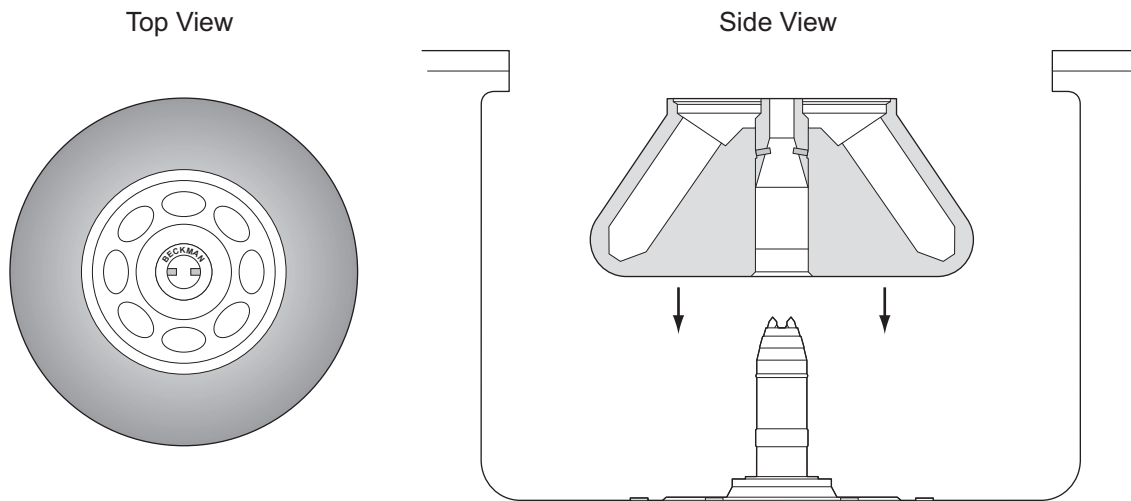

Figure 3. Installing the Rotor
In rotors manufactured since early 1997, the rotor pins are positioned parallel to the BECKMAN name engraved at the center of the rotor body (see Figure 3). Knowing the pin orientation before you install the rotor will help to ensure that you position the rotor properly on the hub, minimizing the chance of hub damage. Follow the steps below.
1. Turn the rotor until the BECKMAN name is either horizontal or perpendicular to the drive hub pins or teeth (see Figure 3). Alternately, rotate the drive spindle to align the hub pins or teeth with the rotor drive pins.